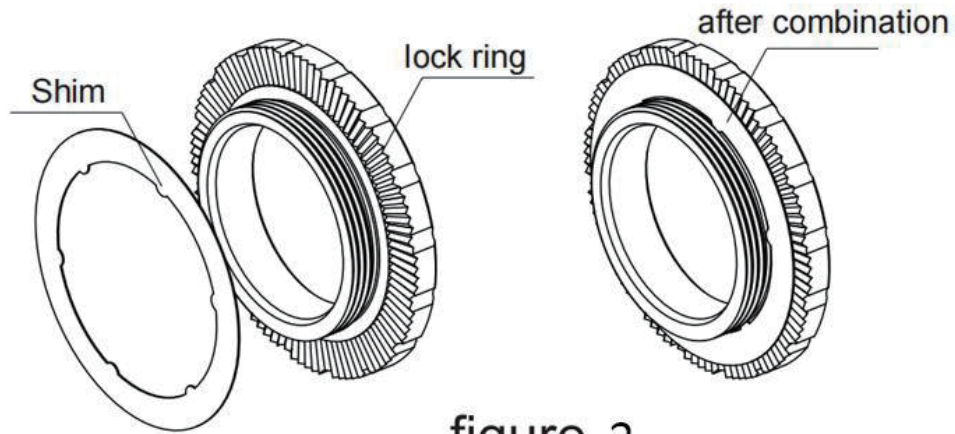

figure 2
- ④ Combine the shim with lock ring(already combined when received product,please proceed directly to the next step) (figure 2)